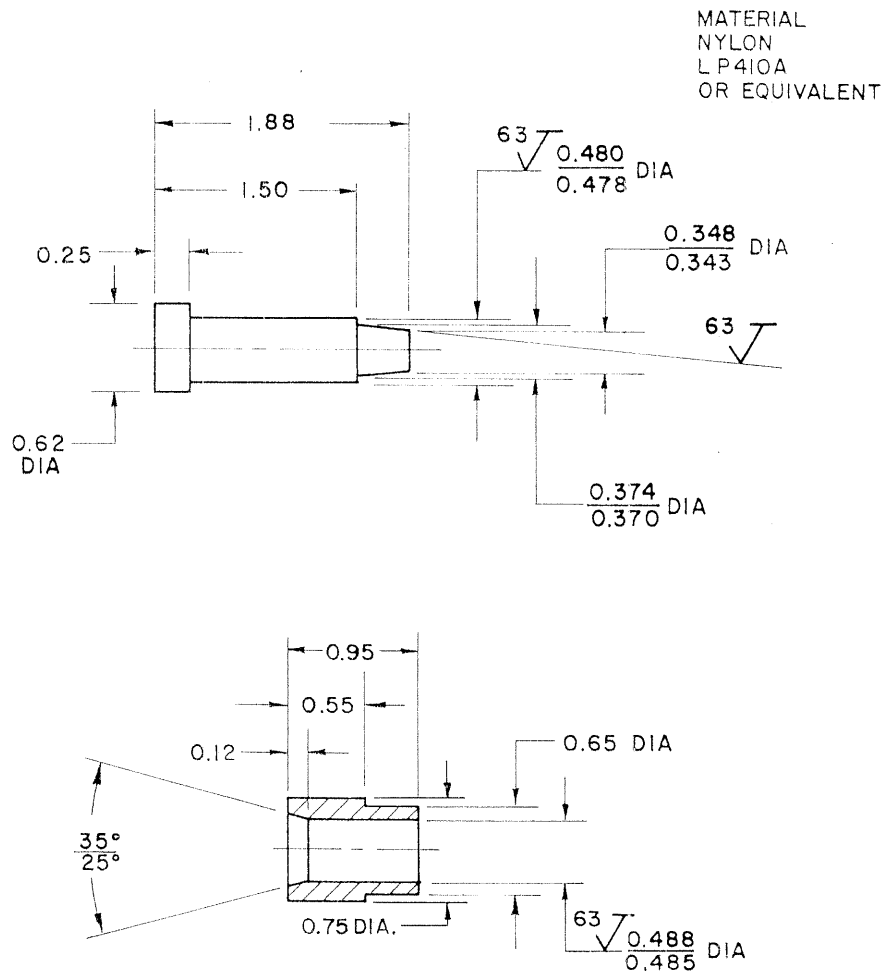
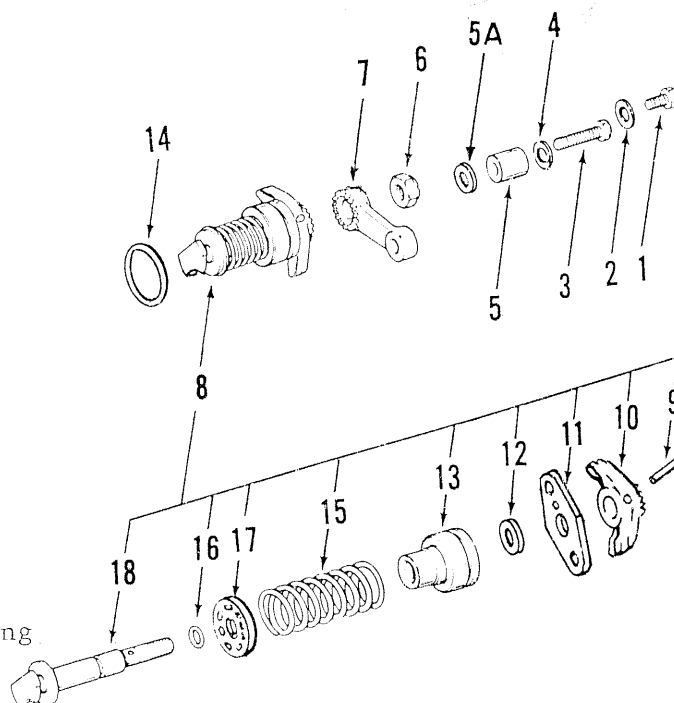
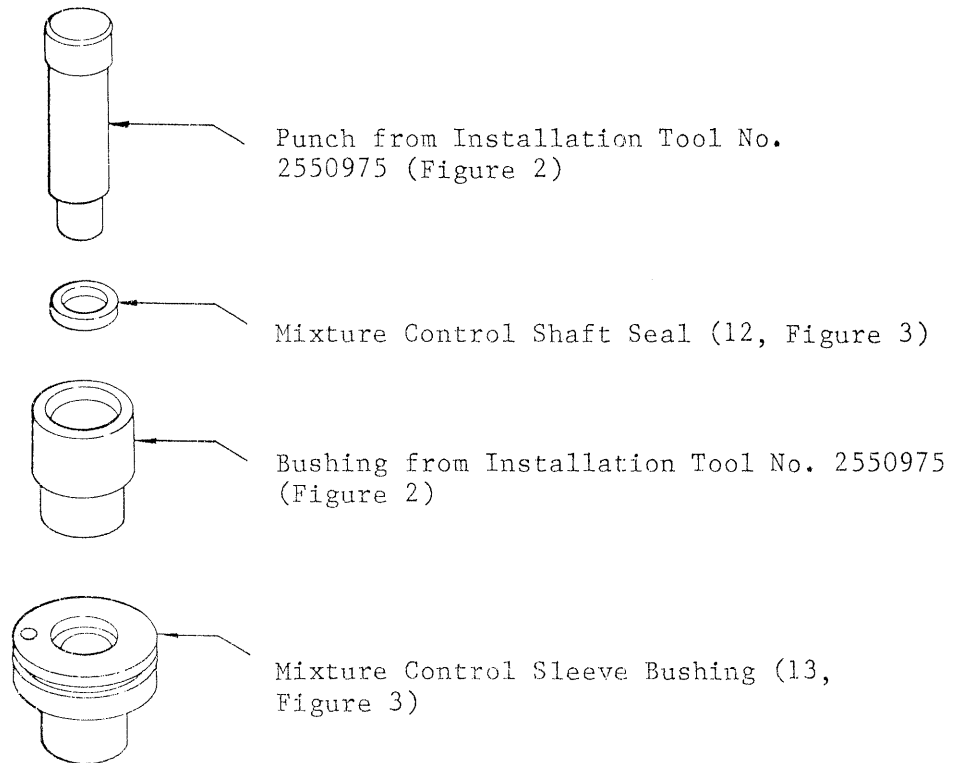

Figure 2. Installation Tool No. 2550975 (Locally Manufactured)
Figure 3. Modified Mixture Control Shaft Assembly
Figure 4. Installation of Mixture Control Shaft Seal in Mixture Control Sleeve Bushing. (For Reference Only)
Corrects Effectivity, Material Availability, Accomplishment Instructions, Figure 2, Figure 3, and Material Information.
a. Remove spring pin (10) and discard. Remove stop (11), washer (12), sleeve bushing (13), and preformed packing (18). Discard washer (12) and preformed packing (18). Remove spring (14), preformed packing (15) and mixture control bushing (16), from the mixture control shaft (17). Discard preformed packing (15).
NOTE: Use installation tool no. 2550975 (Figure 2) to install mixture control shaft seal (12, Figure 3) in the new sleeve bushing (13).
(1) Install mixture control shaft seal (12) in the new sleeve bushing (13) as follows:
CAUTION: INSTALLATION TOOL NO. 2550975 MUST BE USED. THE BUSHING OF THE INSTALLATION TOOL COMPRESSES THE OUTSIDE DIAMETER OF THE MIXTURE CONTROL SHAFT SEAL (12, FIGURE 3) FOR CORRECT AND UNDAMAGED INSTALLATION OF THE SEAL IN THE MIXTURE CONTROL SLEEVE BUSHING.
- a. Remove punch from the bushing of installation tool no. 2550975 (Figure 2). Place covered surface of the mixture control shaft seal (12, Figure 3) on the small diameter of the punch and against the shoulder of the punch point.
- b. Press the punch of the installation tool no. 2550975 (Figure 2) through the top of the installation tool's bushing until 0.25 inch of the punch is protruding through the bottom of the bushing (For reference see Figure 4).
- c. Align the installation tool no. 2550975 (Figure 2) vertically over the bore of the new sleeve bushing (13, Figure 3). Hold the tool aligned in this position and press down on the punch of the tool until it stops. Remove the tool gently from the sleeve bushing.
CAUTION: MAKE SURE THE MIXTURE CONTROL SHAFT SEAL (12, FIGURE 3) IS PROPERLY AND EVENLY SEATED IN THE RECESS OF THE SLEEVE BUSHING (13).
Key to Figure 3
- d. Lubricate preformed packing (14, Figure 3) and assemble to the sleeve bushing (13). Insert bullet nose tool no. 2550976 (Figure 5) from the bottom of the sleeve bushing (13, Figure 3) until the tapered portion of the bullet nose tool is protruding through the top of the sleeve bushing (13). Set assembly aside.
- (2) Assemble the mixture control bushing (17, Figure 3) to the mixture control shaft (18). Assemble preformed packing (16) and compression spring (15). Assemble the sleeve bushing assembly (12, 13 and 14) by inserting mixture control shaft (17) into the bullet nose, assembled to the sleeve bushing in paragraph D, (1), a through c. Assemble the bushing plate (11, Figure 3) by aligning the small detent on the bushing plate with the hold in the shoulder surface of the sleeve bushing (13). Engage the detent of the bushing plate in the hole of the sleeve bushing.
- (3) Assemble the stop (10, Figure 3) as follows:
- b. Align the markings on the mixture control shaft (18, Figure 3) and the stop (10) and with an arbor press, assemble the stop onto the mixture control shaft. Install spring pin (9) through the stop and mixture control shaft. Spread ends of the pin a minimum of 0.010 inch to secure in place.
- (4) Install the mixture control shaft assembly in the main body. Align the holes in the bushing plate with the holes in the main body. Secure the assembly with new washer (5A), spacer (5), washer (4), screw (3), new washer (2), and screw (1). Tighten screws to the torque value specified in the latest applicable overhaul manual. Assemble lever (7, Figure 3) and secure with new nut (6). Tighten nut to the torque value specified in the latest applicable overhaul manual.
- (5) Complete the assembly of the fuel injector by referring to the instructions in the latest applicable overhaul manual.